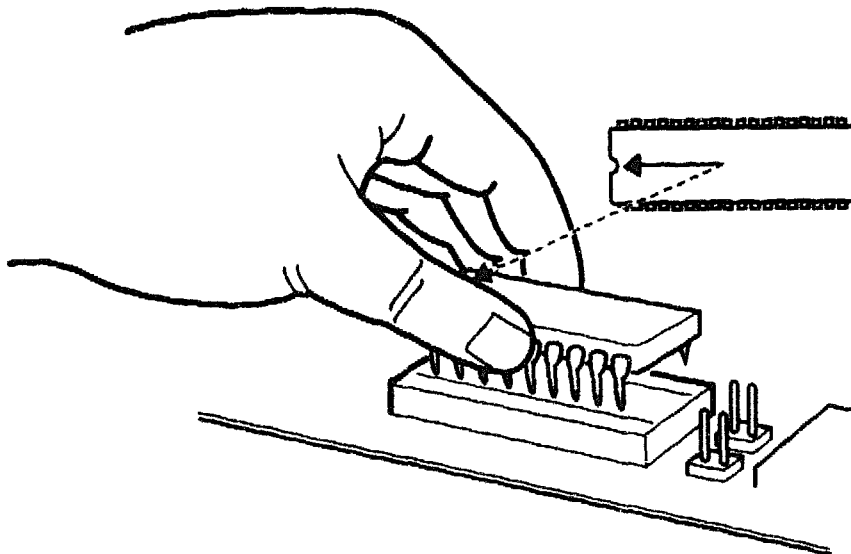

Figure 3-40 - The correct way to install the BIOS chip
3. Position the BIOS chip above the BIOS socket on the CPU Board. Make sure that pin 1 is properly aligned with the correct hole on the socket (Figure 3-40). The correct hole for pin 1 is marked with an A.